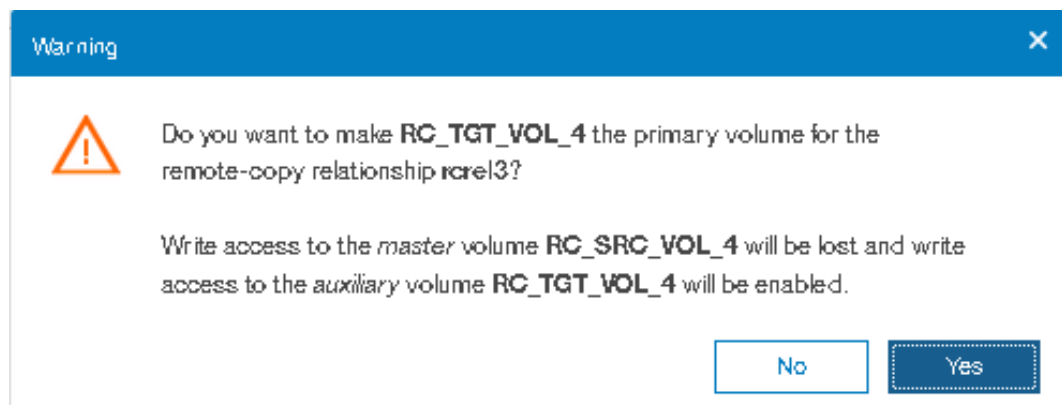

Figure 10-138 Warning window
5. The Warning window that is shown in Figure 10-138 opens. A confirmation is needed to switch the remote copy relationship direction. The remote copy is switched from the master volume to the auxiliary volume. Click **Yes**.